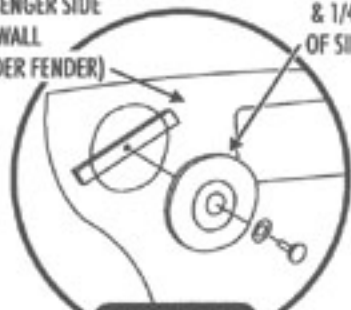

FIGURE 17
•INSTALL FRESH AIR COVER. SEE FIGURE 17.